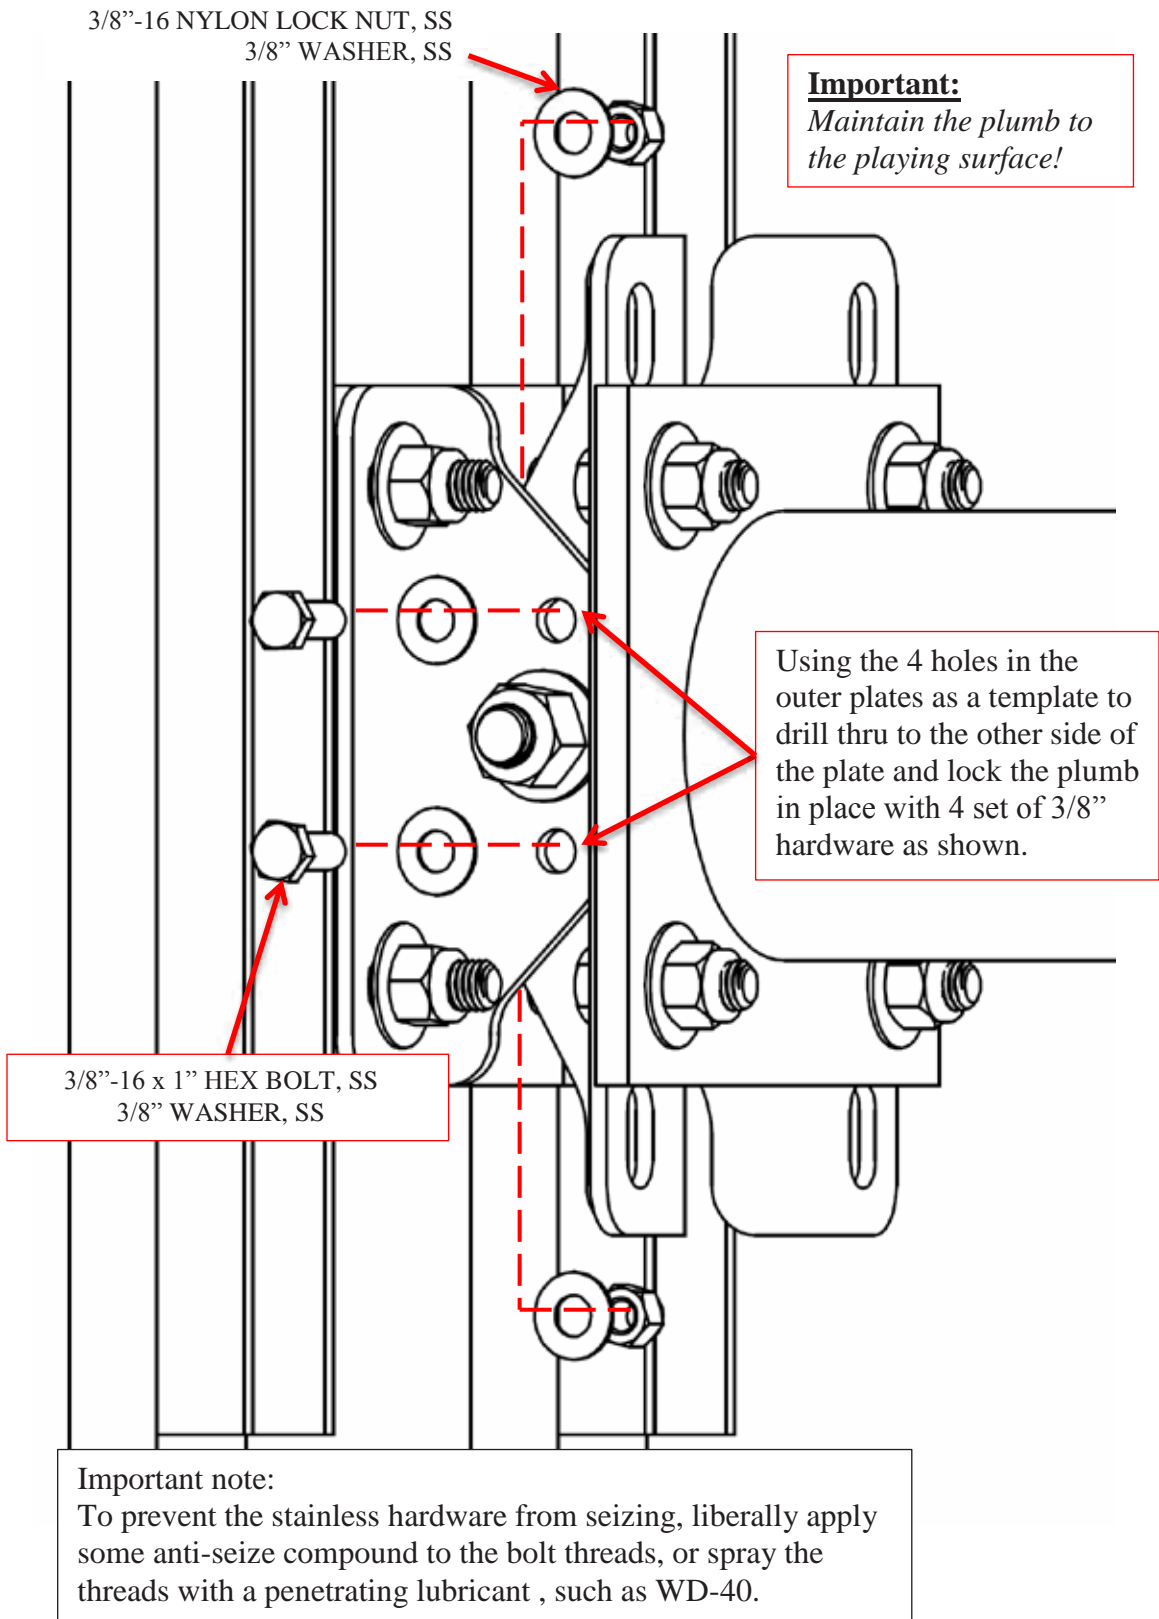

Figure 10
3. Using the 4 holes in the outer plates as a template to drill thru to the other side of the plate and lock the plumb in place with 4 set of 3/8" hardware as shown (Figure 10).